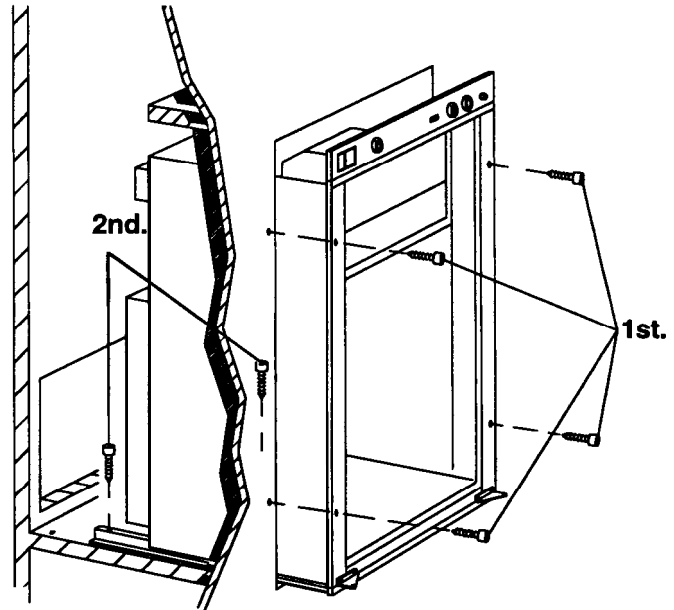

FIG. 7
STEP 1: Four screws installed through the front frame. See fig. 7.
STEP 2: Two screws installed in the rear base. See fig. 7.